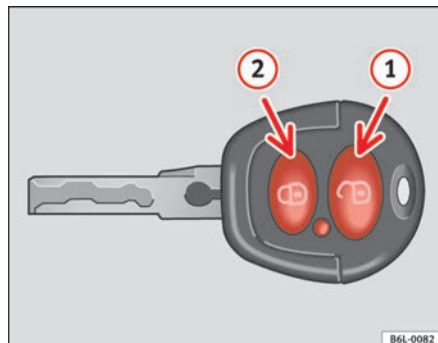
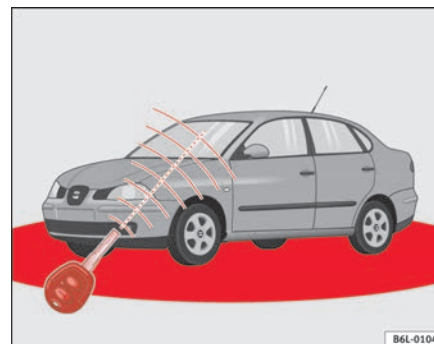

Fig. 48 Assignment of buttons on the remote control key
Fig. 49 Range of the remote control
The range (red zones) ⇒ fig. 49 of the remote control is shown in the diagram. The maximum range depends on a number of circumstances.
To **open**, place the key within the range, pointing towards the vehicle and briefly press the open button  ⇒ fig. 48 1. The indicators flash twice. To ►
lock the vehicle, press the lock button briefly  $\Rightarrow$ fig. 48 . The indicators flash once.
By pressing the lock button **twice**  $\Rightarrow$ page 78, fig. 48  both the locking security mechanism (double lock) and the volumetric alarm* are deactivated but the perimetric alarm* remains active and this is indicated by the indicator light on the driver's door.
When the button  $\Rightarrow$ page 78, fig. 48  is pressed once, the driver's door is unlocked, all others remain locked.
Press the button  $\Rightarrow$ page 78, fig. 48  twice to unlock all doors.
- The remote control functions only when you are in range $\Rightarrow$ page 78, fig. 49 (red area).
- Use both keys that have been delivered with the vehicle; the key with the remote and the normal key $\Rightarrow$ page 78, fig. 48 $\Rightarrow$ page 78, fig. 49. ►